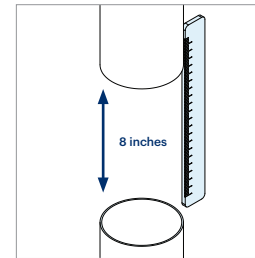

Figure 1
2. For installation on a vertical downpipe directly under your gutter, measure 8" from the bottom of the existing gutter pop and remove this section of downpipe. For installation under your eaves or midway down your downpipe, remove a 8" section of pipe at your desired installation point. Ensure all cut edges are clean and smooth (Figure 1).